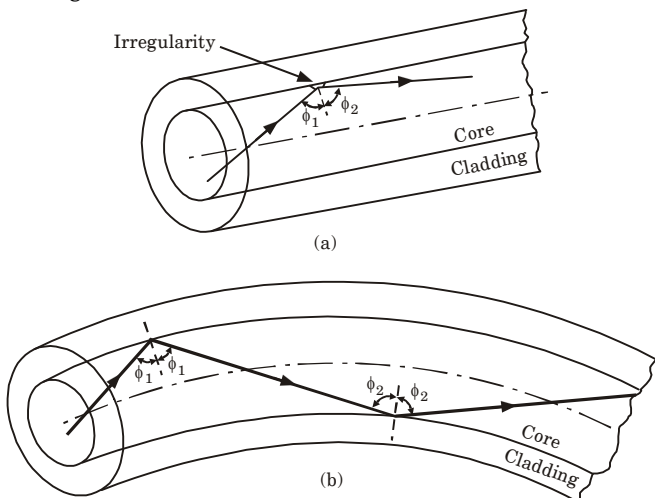

Fig. 9. (a) irregularity at the core-cladding interface;
3. Ray theory aids the understanding of this phenomenon, as shown in Fig. 9, which illustrates two types of perturbation. It may be observed that in both cases the ray no longer maintains the same angle with the axis.